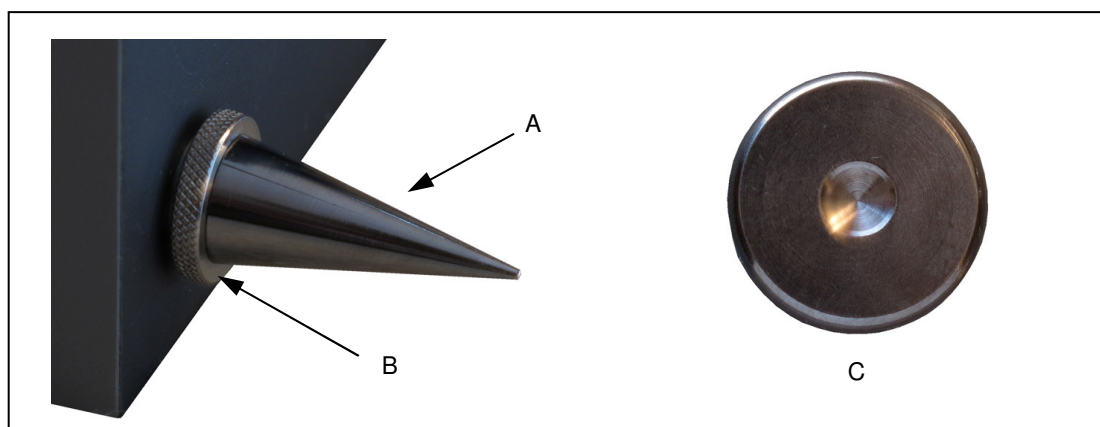
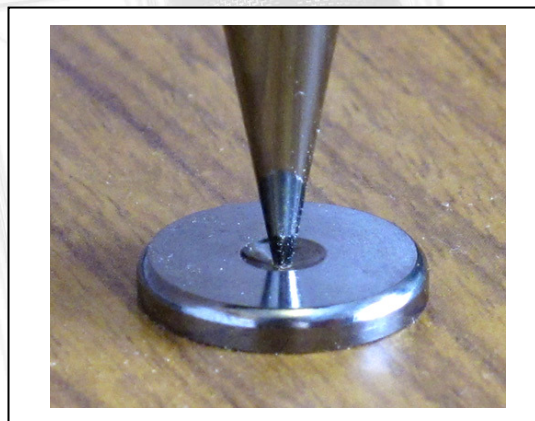

Figure 5. Spike with Locking Nut and Foot (shown enlarged)
Figure 6. Correct Positioning of Foot
Lay the loudspeaker on its side. Unscrew and remove the four shipping supports. Take four spikes and ensure that the locking nuts (B figure 5) are screwed all the way down the screw threads as shown, then screw each spike fully into base of the loudspeaker.
The spikes are supplied with a special foot, (C figure 5). This is flat on one side and has a recess machined into the other side. It is intended to be placed under the spike, flat side down and used where the user does not want the spike to come into direct contact with the floor, for example when the loudspeakers are to be placed on a polished wooden floor. Self-adhesive felt pads are supplied which may be fixed to the flat side of the foot to give further protection from scratches. They also make it easier to move the loudspeaker. When the foot is used, make sure that the tip of the spike is located in the centre of the recess as shown in figure 6.
sitting squarely on all four spikes. The locking nut (B figure 5) can now be tightened up against the base of the loudspeaker by hand.
2. **If the loudspeaker can be rocked in the 2 o'clock to 8 o'clock direction**, lean the loudspeaker to the right and screw **out** the left hand front spike by the amount of movement you saw. Set the loudspeaker back upright and repeat the process until it is sitting squarely on all four spikes. The locking nut (B figure 5) can now be tightened up against the base of the loudspeaker by hand.